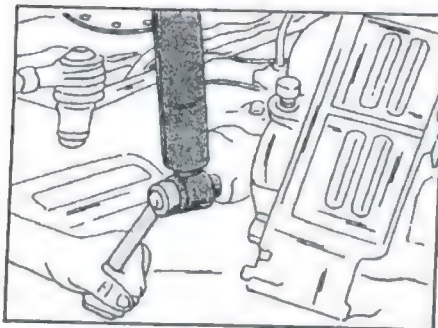

Fig. 4.4 – Fitting a shock absorber to the lower mounting.
- Refit both shock absorbers to the front axle. A spacer bush and a washer is placed between the axle beam and the shock absorber. Tighten the shock absorbers nuts (Fig. 4.4) to 7.0 kgm (50 ft.lb.).
shock absorber. Tighten the shock absorbers nuts (Fig. 4.4) to 7.0 kgm (50 ft.lb.).